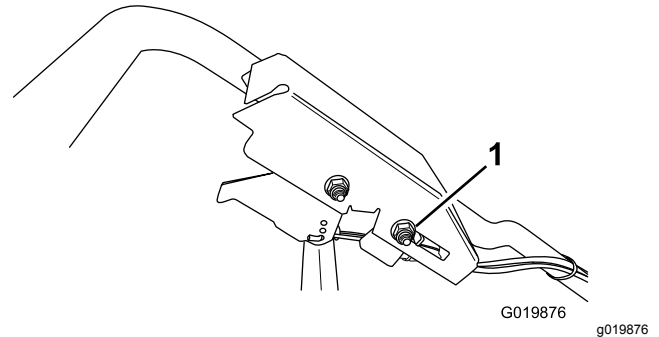

Figure 50
2. Loosen the cable-support nut (Figure 50).